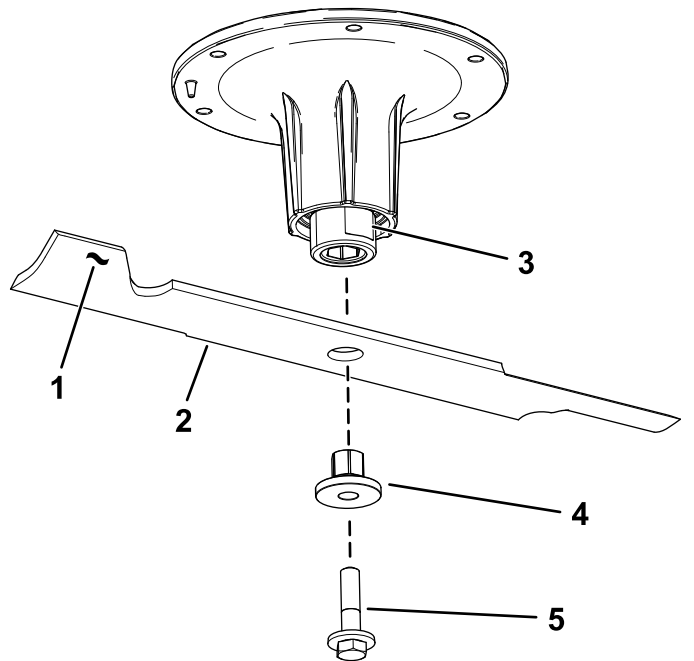

Figure 83
2. Remove the blade bolt, bushing, and blade from the spindle shaft (Figure 83).